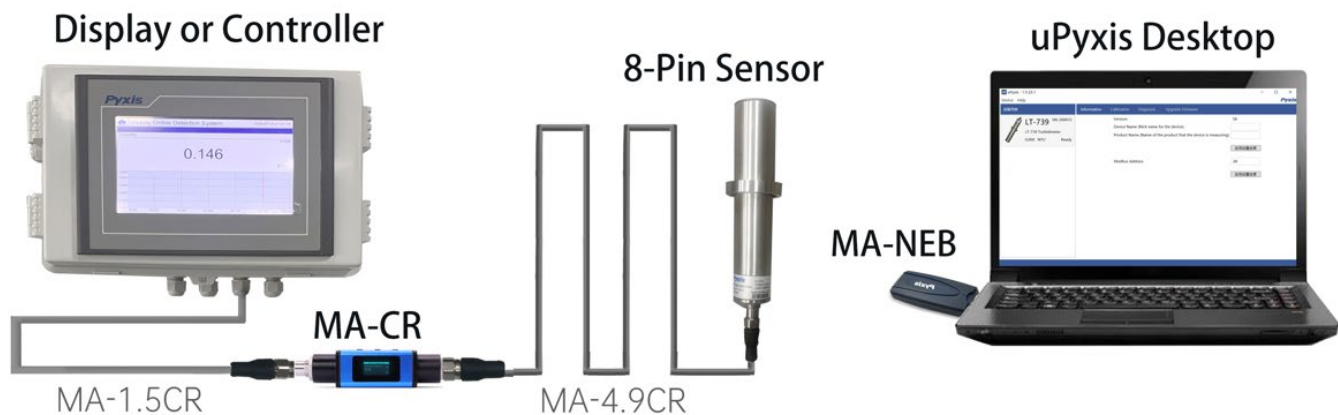

Figure 14. 8-Pin Sensor with MA-CR and MA-NEB and uPyxis Desktop
1. Install the MA-CR Bluetooth Adapter on the 8Pin output cable from the ST-500W as outlined on page 11 as seen in **Figure 14** (if powered by a controller).